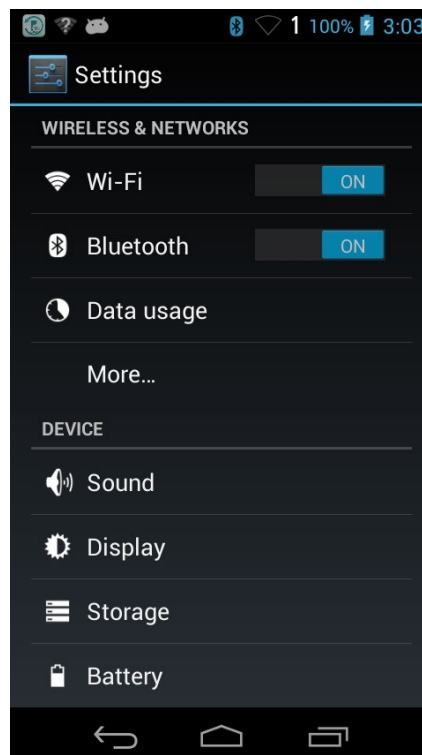
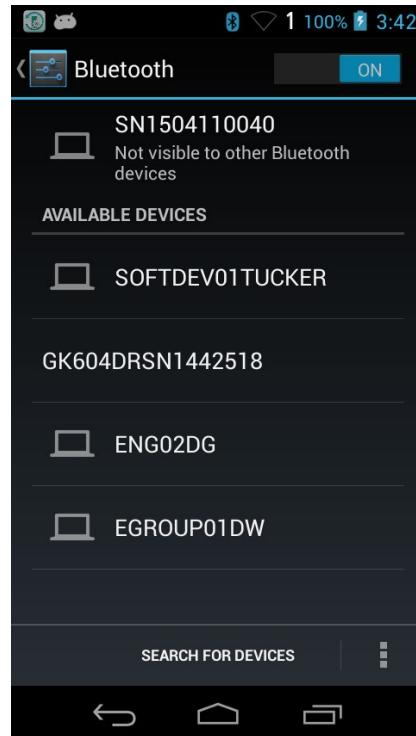
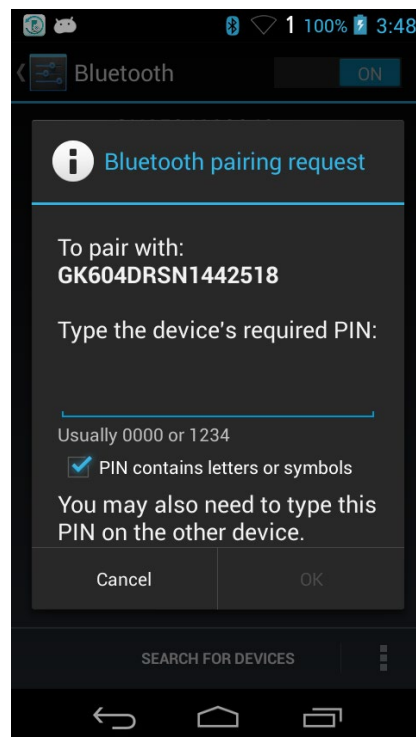

Figure 18 - Android Device Settings Screen
Figure 19 - Bluetooth Pairing Screen
Figure 20 - Bluetooth Pairing Request Screen
- 1) Enter the Settings screen of the Android device (see Figure 18). Insure that the slider next to the “Bluetooth” parameter is set to “ON”. Tap “Bluetooth” to begin setting up a Bluetooth “partnership” (**Note:** For some Android versions the Bluetooth On/Off control may only appear on the Bluetooth Pairing screen (see Figure 19 in step two)).
- 2) Press the button labeled “POWER ON” on the Remote Module before tapping “SEARCH FOR DEVICES” from the Bluetooth Pairing screen (Figure 19) to instruct the Android device to begin searching for available wireless devices to pair with.
- 3) Geokon Remote Modules typically have device names that start with “GK604DRSN” followed by the serial number of the reel. (Figure 19 shows an example device called “GK604DRSN1442518”.) Tap on the device to begin the pairing process (Figure 20).